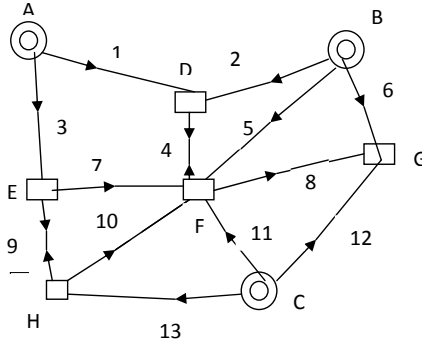

Figure 1: Water Network for Question 2
2. Figure 1 below illustrates the water network of Newvillage. The lines are water pipelines numbered from 1 through 13. The arrows on the lines are possible direction(s) of flow of water in these pipelines. The circles are water sources numbered A, B, C. The rectangles are houses D, E, F, G, H. The maximum possible capacity of the water sources are (the sources can operate at less than the maximum capacity): A: 100 Units, B: 100 Units, C: 80 Units Demands of water in the houses are: D: 50 Units, E: 60 Units, F: 40 Units, G: 30 Units, H: 70 Units Since the houses are at different elevation and the pipes are of different diameter, the cost of transporting water is different in the different pipes. These costs per unit of water are: Pipe 1: \$2, Pipe 2: \$3, Pipe 3: \$4, Pipe 4: \$2, Pipe 5: \$3, Pipe 6: \$2, Pipe 7: \$4, Pipe 8: \$1, Pipe 9: \$2, Pipe 10: \$4, Pipe 11: \$5, Pipe 12: \$1, Pipe 13: \$2. Formulate an LP to minimize the total cost of transporting water so as to meet the water demands of each house.